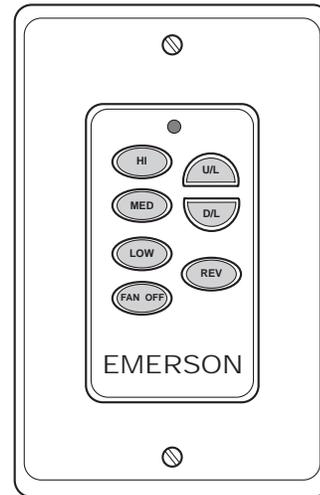

Figure 25
Your SW116 Fan/Light Wall Control (Figure 25) has full control of your fan, lights, and airflow direction.
1. To set the desired fan speed, push the HI, MED, or LOW buttons to operate your fan on high, medium or low speed (See Figure 25).